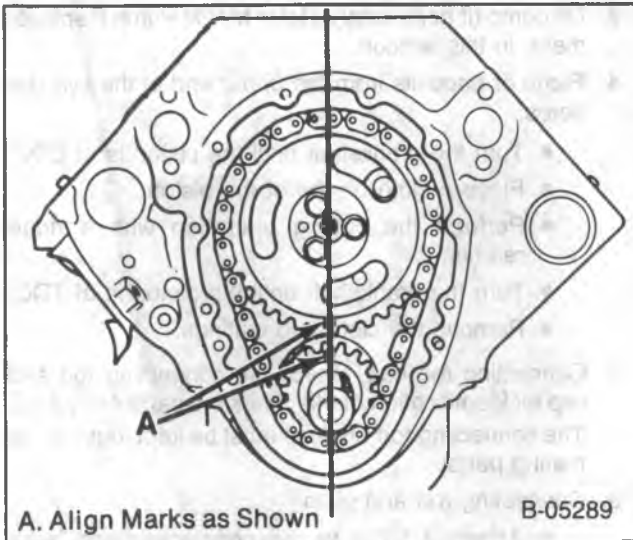

Figure 26 — Timing Marks
- Align the timing marks (figure 26).
15. Screws (88) and thrust plate (87).
- Line up the timing marks on the camshaft sprocket and crankshaft sprocket (figure 26).